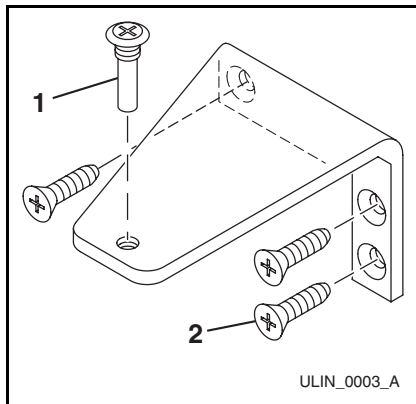

Figure 18
1. Remove top hinge screw pin (**Figure 18, 1**) from door using a Phillips screwdriver. Remove door by tilting forward and lifting off bottom hinge pin.
3. Remove top hinge (three screws) (**Figure 18, 2**) and reinstall hinge screw pin (**Figure 18, 1**).